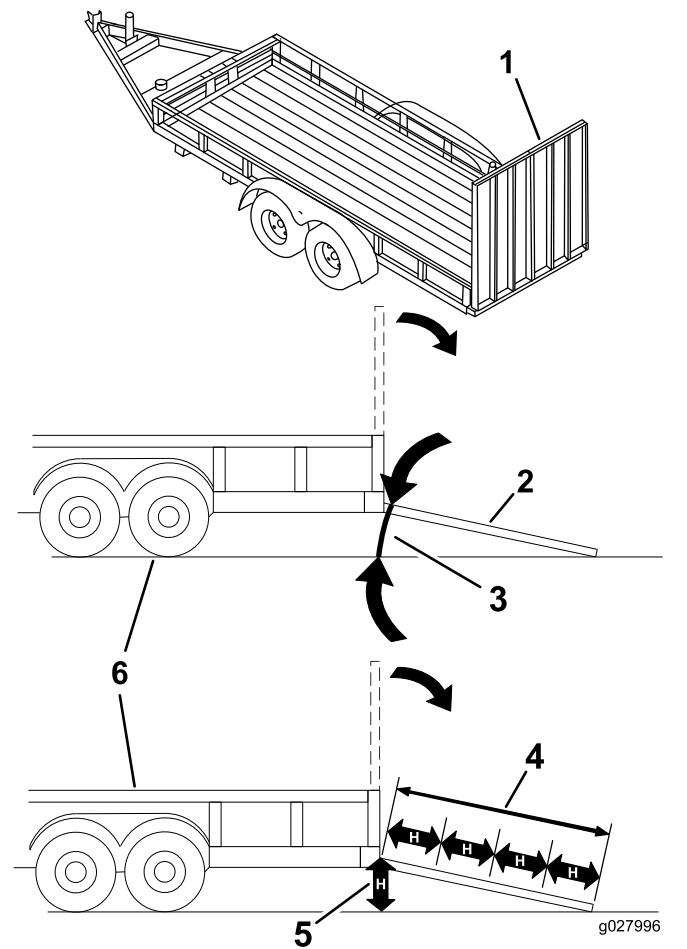

Figure 24
Loading a machine onto a trailer or truck increases the possibility of tip-over and could cause serious injury or death (Figure 24).
3. Lower the ramp, ensuring that the angle between the ramp and the ground does not exceed 15 degrees (Figure 24).
1. Lower the ramp, ensuring that the angle between the ramp and the ground does not exceed 15 degrees (Figure 24).